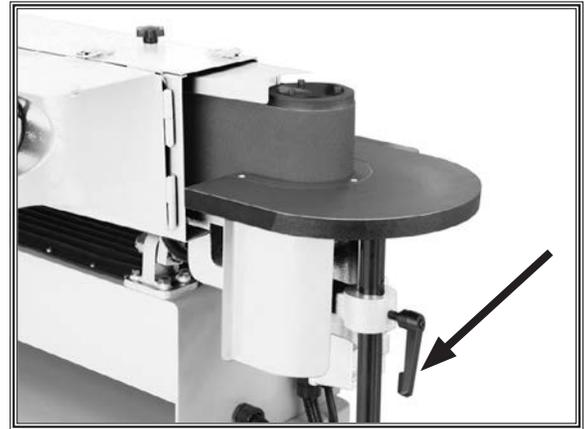

Figure 22. Spindle table adjustment lock handle.
1. Loosen adjustment lock handle shown in **Figure 22**.